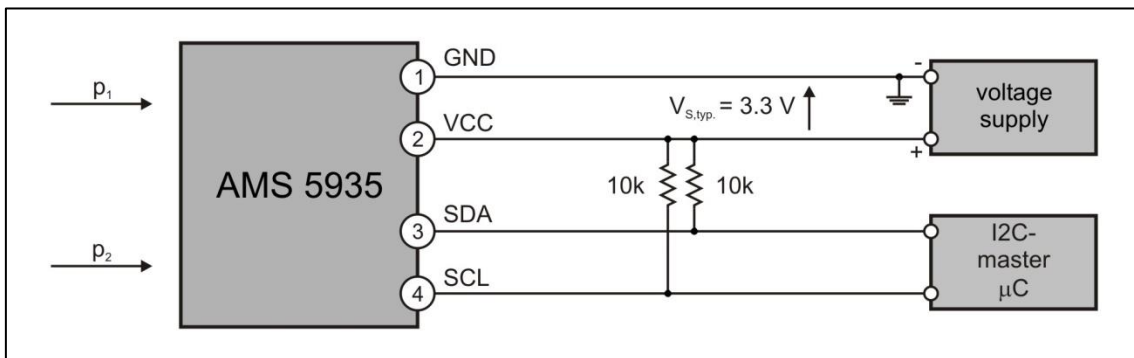
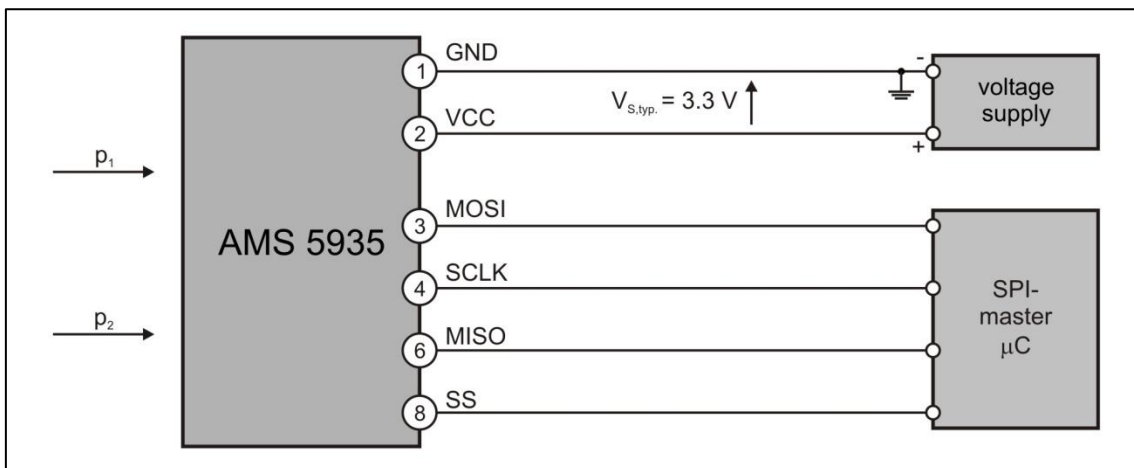

Figure 2: Principle electric circuitry for I2C communication
Figure 3: Principle electric circuitry for SPI communication
For data readout using I2C the basic circuit for the AMS 5935 sensor is shown in *Figure 2*. It is sufficient to connect PIN1 (GND), PIN2 (VCC) and the I2C-bus lines to PIN3 (SDA) and PIN4 (SCL).
In order to read out the data using SPI, the basic circuit for the AMS 5935 sensor is shown in *Figure 3*. For SPI communication PIN1 (GND), PIN2 (VCC) and the SPI-bus lines to PIN3 (MOSI), PIN4 (SCLK), PIN6 (MISO) and PIN8 (SS) have to be connected.
For data readout AMS 5935 pressure sensors provide a digital interface which is able to communicate via the I2C or SPI protocol. The basic circuit for I2C communication is shown in *Figure 2* and for SPI communication in *Figure 3*.